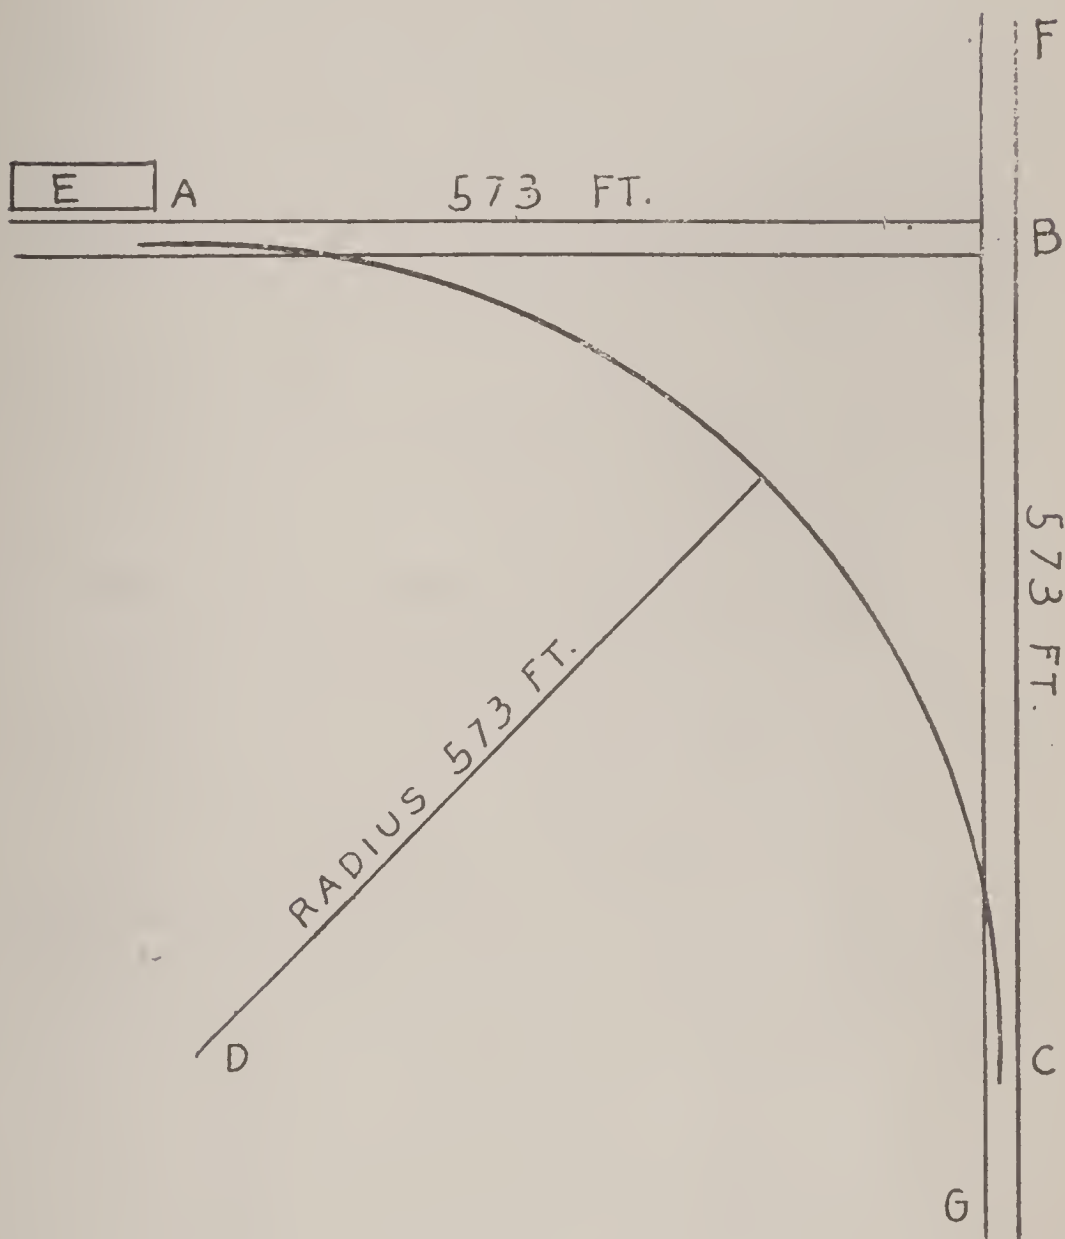
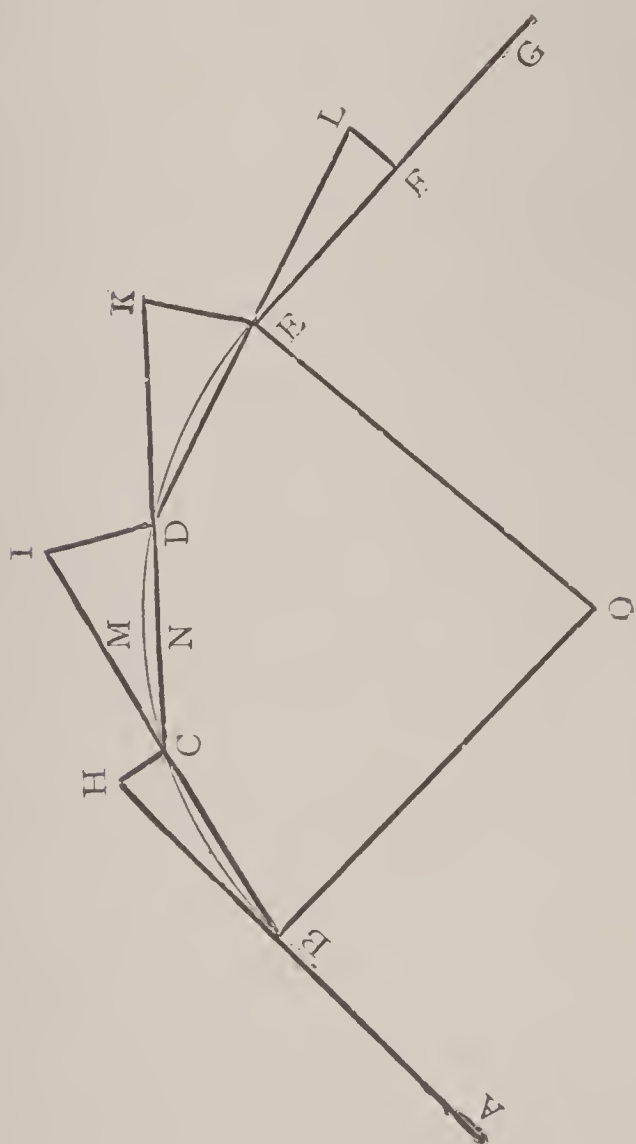
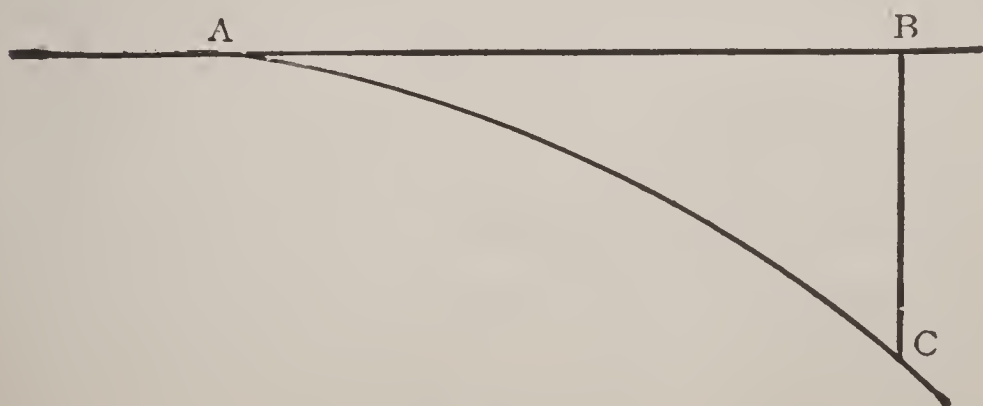

Fig. 18.
Fig. 20.
Fig. 21.
- 1, RADIUS AND DEGREE OF CURVES, Fig. 18—2, Curve Radius—3, Method of Staking or Laying out a Side Track without the Aid of Transit or Chain, Fig. 19—4, To Lay Out a Four Degree Curve—5, To Lay Out a Curve by the Eye, Fig. 20—6, Radii, Ordinates, Tangent and Chord Deflections, Table 111—7, To Find the Radius of a Curve Required to Reach any Desired Object, the Point of Curve being known, Fig. 21—8, Method of Laying a Spur Track Curve, Fig. 22—9, Three Methods of Finding the Difference in Length Between the Inner and Outer Rails of a Curve—10, Broken or Staggered Joints, Tables IV and V.
1. Figure 18 illustrates a very simple method by which to determine the radius or degree and point of curve. When the curve holds 90 degrees of angle, the radius is the same length as the tangents of the curve. As shown in the example, the letters, G and F, represent the rails of a piece of straight track from which it is desired to turn out a curve track, which, when distant from said track 573 feet and at right angles with it, will parallel a building, marked E, also with straight track.
5. In Fig. 20, the chord, H C, subtends the angle formed by the tangent, A B, produced to H, with the chord, B C, is called the *tangent deflection*. The chord, I D, which subtends the angle formed by the chord, B C, produced to I, with the chord, C D, is called the *chord deflection*. The number of degrees in the angle, I C D, expresses the degree of curve. The tangent deflection is equal to one-half the chord deflection.
The middle ordinate of a chord is the perpendicular distance from the middle of the chord to the curve; thus M N, Fig. 20, is the middle ordinate of the chord, C D.
7. In Fig. 21, A B. represents a tangent, and starting at a point as A, it is required to reach the point C. From the starting point A, measure along the tangent to a point B, square across from C, then measure the perpendicular distance, B C. Then divide the square of the distance, A B, by twice B C, and to the quotient add  $\frac{1}{2}$  B C, the result will be the required radius. The line of the perpendicular can be obtained by placing the gauge on the track, and sighting along it; or if A B is only a line of stakes, as the line of the frog produced, lay off on the ground the sides of a right angled triangle, 15, 20 and 25 feet are convenient lengths, always making 15 or 20, coincide with the given tangent. If the main line is curved, the measurements may be taken on the prolongation of the tangent through the starting point.